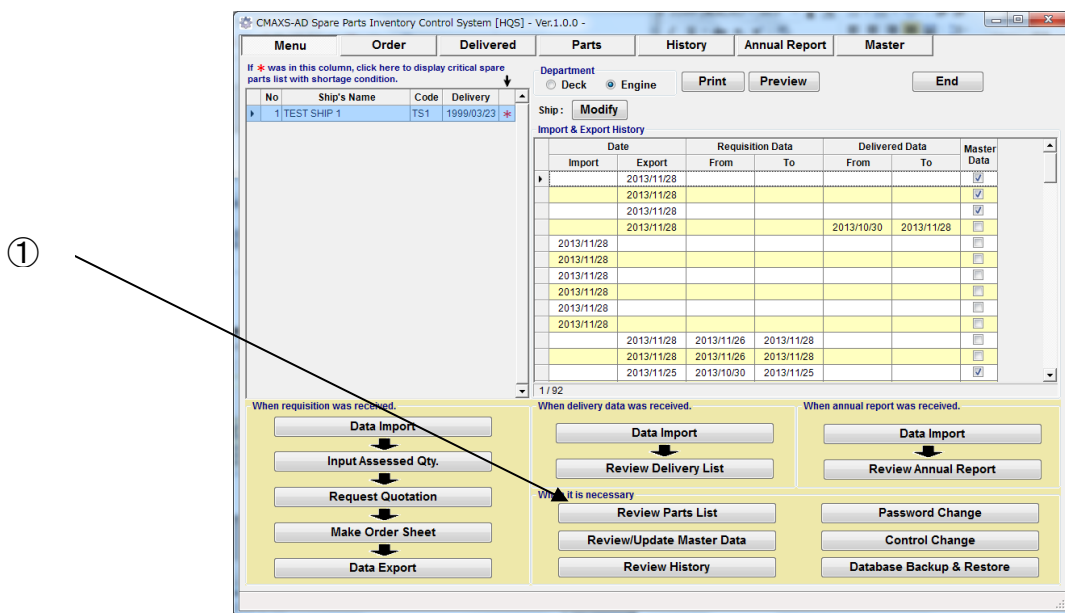

Fig.12-1 Menu Screen
- (1) On the “Menu Screen”(Fig.12-1), select [Review Parts List].